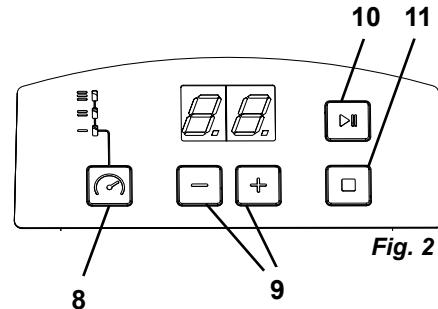

Fig. 2
⇒ Adjust the cleaning time with the + / - buttons (9, Fig. 2)
⇒ Use the selection button (8, Fig. 2) to select / set the intensity.
⇒ Start cleaning with the Start / Pause button (10, Fig. 2).
- Cleaning can be stopped at any time before the cleaning time has elapsed by pressing the Stop button (11, Fig. 2).
- ⇒ Stop cleaning altogether by pressing the Stop button (11, Fig. 2).